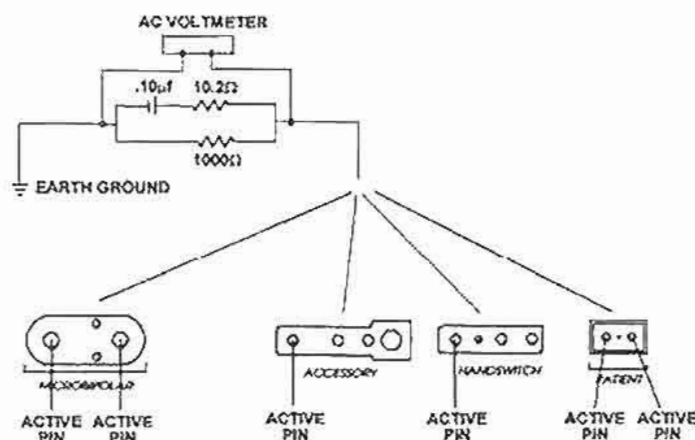

Figure 3-8. Electrical leakage test circuit.
- c. Set up a test circuit as depicted in figure 3-8.